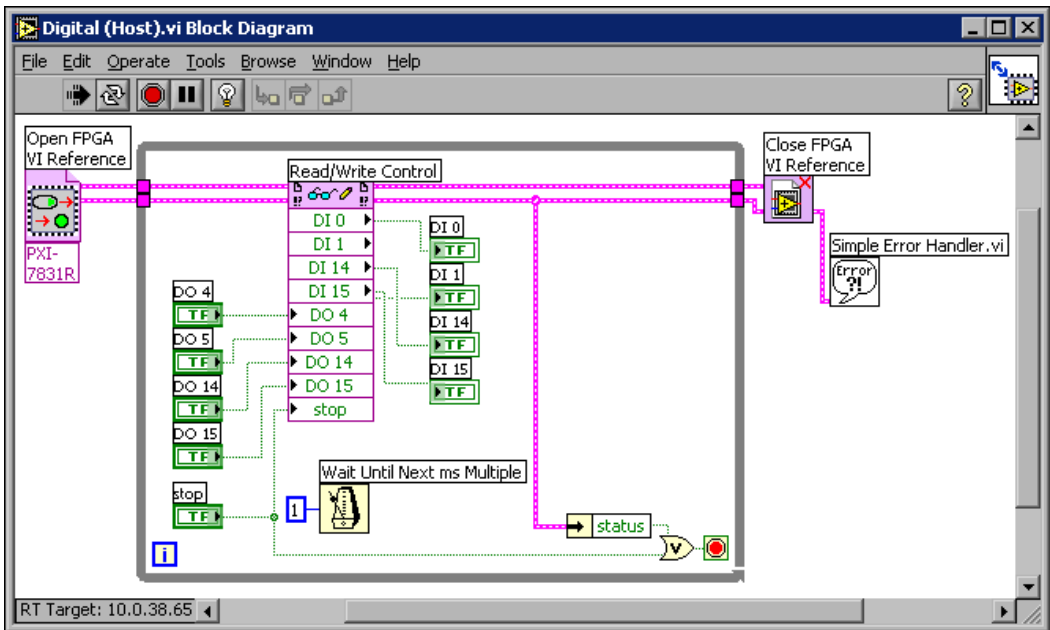

Figure 9. Block Diagram of the Host VI
6. Select **Window»Show Block Diagram** from the Digital (Host) VI to view the block diagram. The block diagram appears as shown in Figure 9.